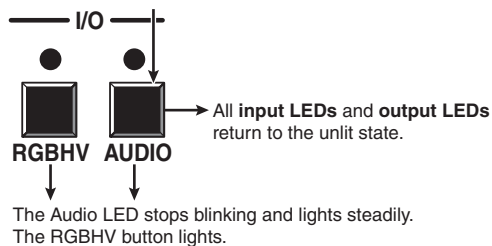

Figure 3-56 — Deselect Audio mode
5. Press and release the Audio button (figure 3-56).